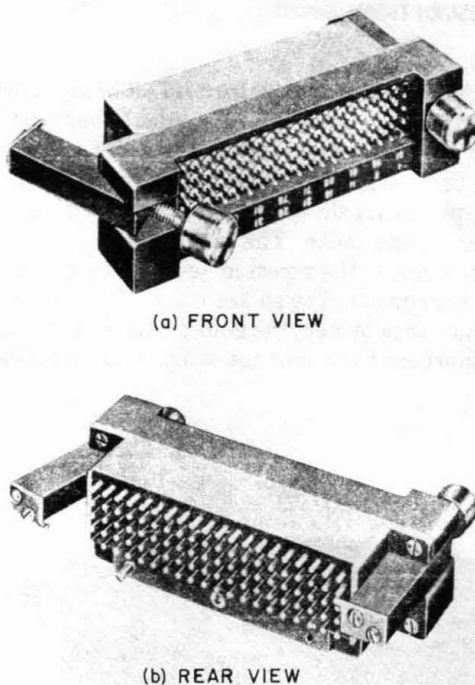

Fig. 4—H Test Connector—Front and Rear View
2.03 The *H test connector (AT-8461)*, shown in Fig. 4, is similar to the G test connector except for the number of locating pins on the rear and the pair numbering on the front. The H test connector mounts on 303-type connectors.